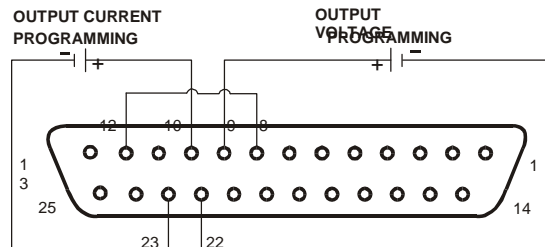

Fig. 7-1: Remote voltage programming connection
- Connect the programming source to the mating plug of J1 as shown in Fig.7-1. Observe correct polarity for the voltage source.